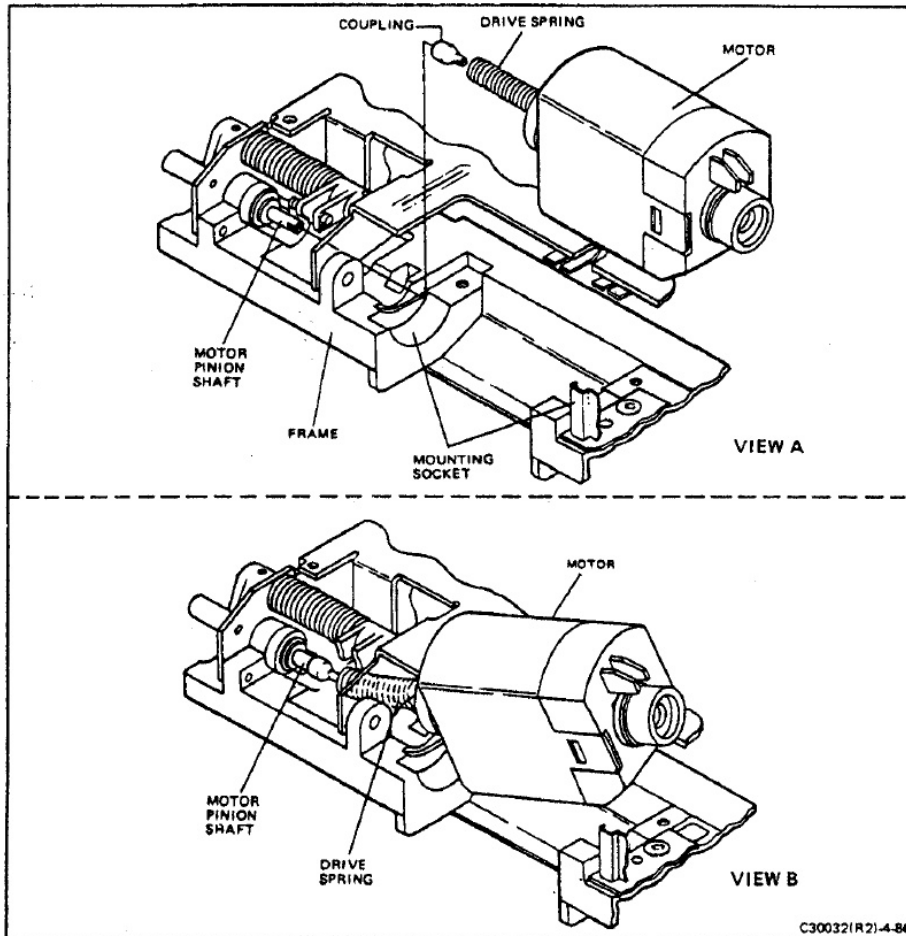

FIGURE 4-86 MOTOR INSTALLATION
- Refer to Figure 4-86. Hold the motor as shown. The motor pinion shaft can be rotated by manually operating the gear train. Rotate the shaft so that the cross tang on the coupling spring is correctly aligned with the slot in the coupling. (Use a new plastic coupling whenever installing a motor.)